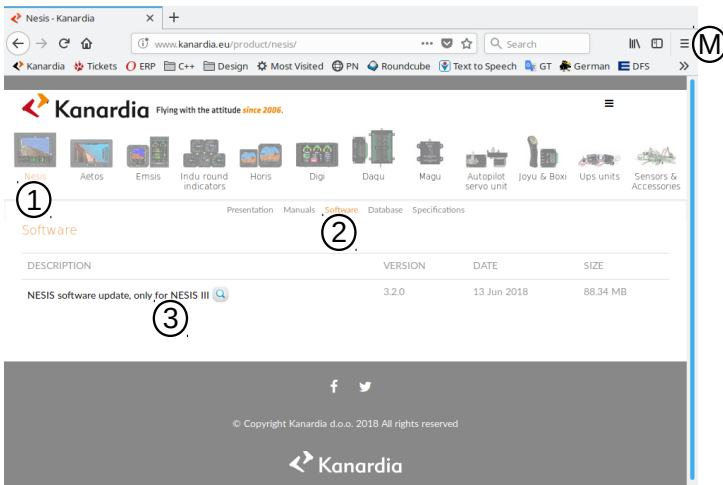

Figure 68: Illustration of the Nesis software download page. Usually only latest update is available.
- ① Open the home page and select *Nesis* icon on the top. This leads to Nesis specific page.
- ② Select *Software* next. This opens a page with Nesis specific software. An example is shown on Figure 68.
- ③ Click on the link to start download process of selected software file. Before downloading the software, a window appears asking for your email address. This is optional. Download will be completed also if address is not given.
1. Click on the \equiv menu symbol. See label  on Figure 68.